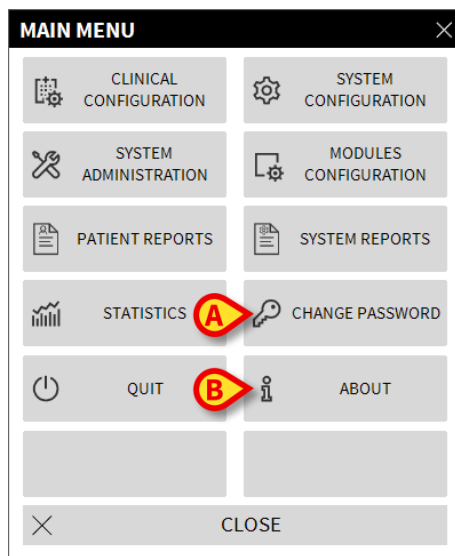
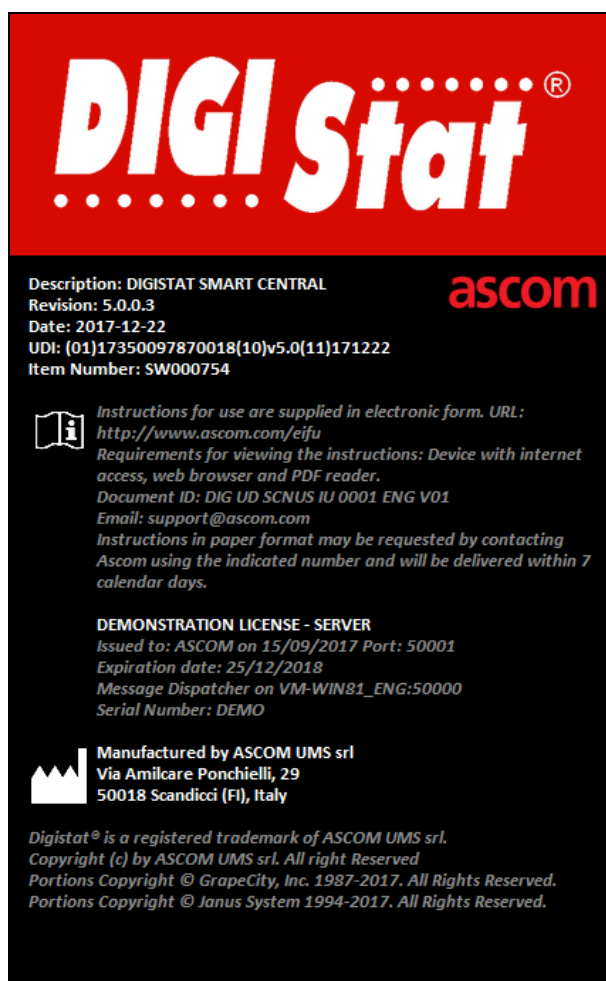

Fig 36
Fig 38
The **Change Password** button on the DIGISTAT® main menu (Fig 36 A) opens a window making it possible to change the password of the user currently logged to the system.
- Click the **Change Password** button (Fig 36 A)
The **About** button on the DIGISTAT® main menu (Fig 36 **B**) displays a window containing information on the DIGISTAT® version installed and the related licenses (Fig 38).